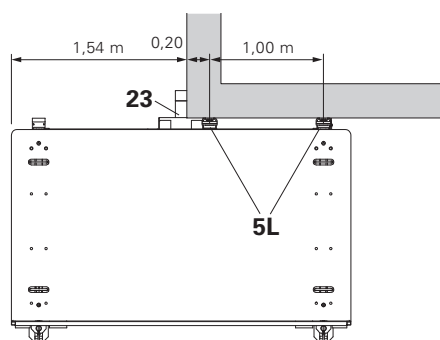

Fig. A4.04
- Mounting Heads (5) in position (5L).
- (Fig. A4.04)